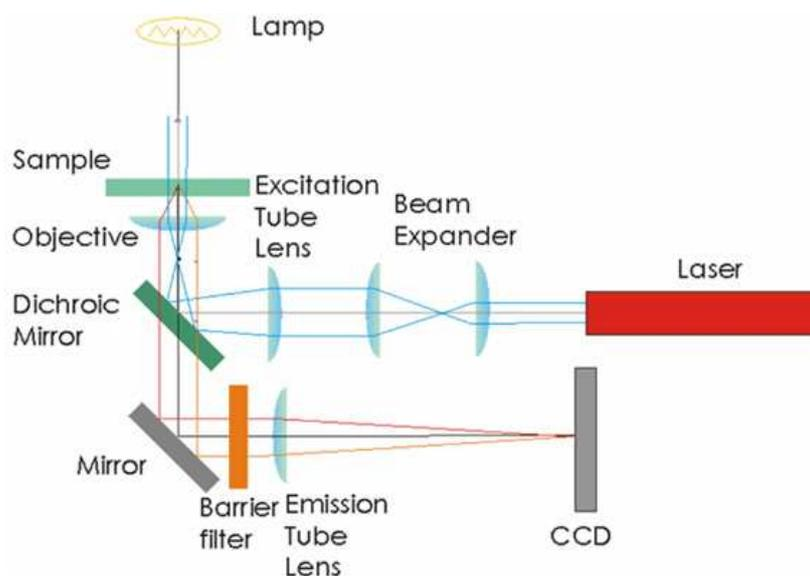

Figure 1: Rough schematic showing white light and fluorescence light paths for imaging the specimen plane. Not drawn to scale.
To start, familiarize yourself with the optomechanical components that you will use as the building blocks for optical construction. Figure 1 provides a general scheme for the microscope geometry, but you will not be provided with a detailed schematic for how to put everything together. You are on your own! Spend some time on trial-and-error exploration.
See Figure 1 at Nikon MicroscopyU "Basic Concepts and Formulas in Microscopy: Working Distance and Parfocal Length."
We have two pieces of optics to help us do this. Take a look at Figure 1 for the roles they play in the microscope layout. Note that the barrier filter is key for high-sensitivity fluorescence imaging, and will not significantly impact white-light imaging.
- A rough schematic of the microscope geometry is shown in Figure 1.